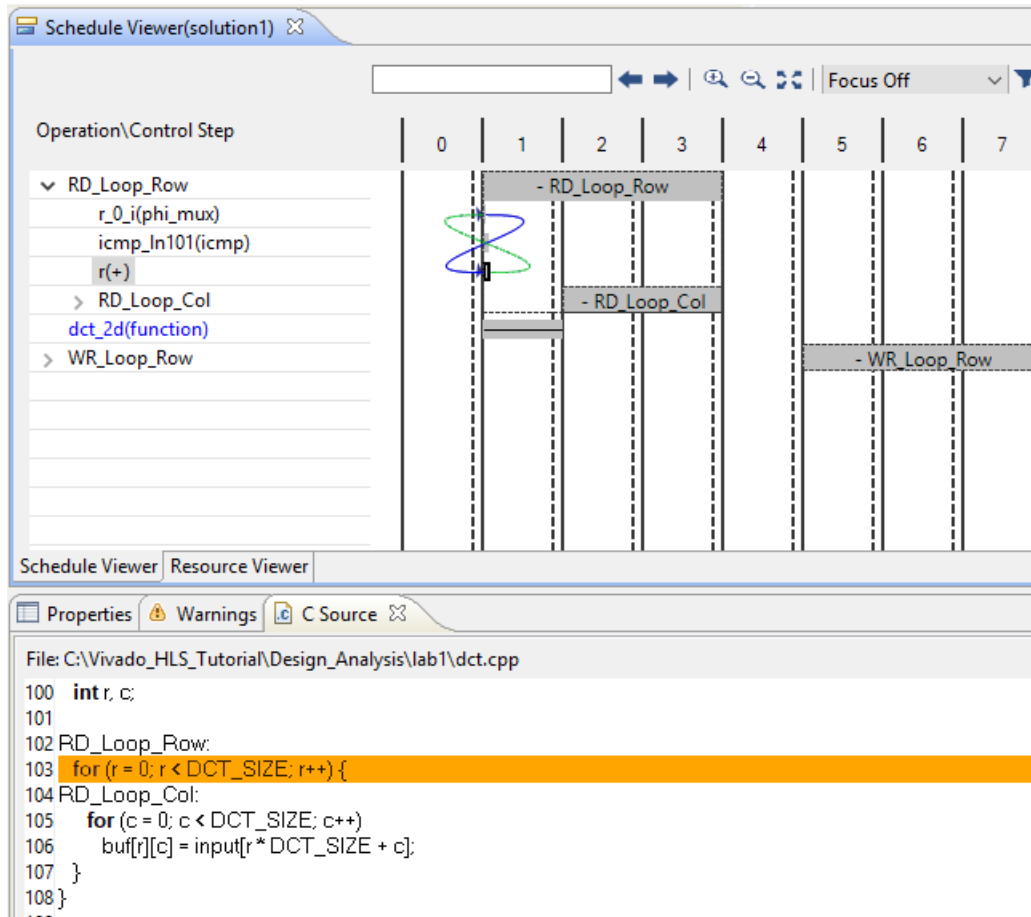

Figure 6-9: C Source Code View
3. Select the adder in state C1, right-click and select **Go to Source** (Figure 6-9).
This opens the C source code to highlight the operation in the C source that created this adder. From the details on screen (also shown in Figure 6-9), you can determine it is indeed the loop counter. It is the only addition on this line, and the variable is named "r".